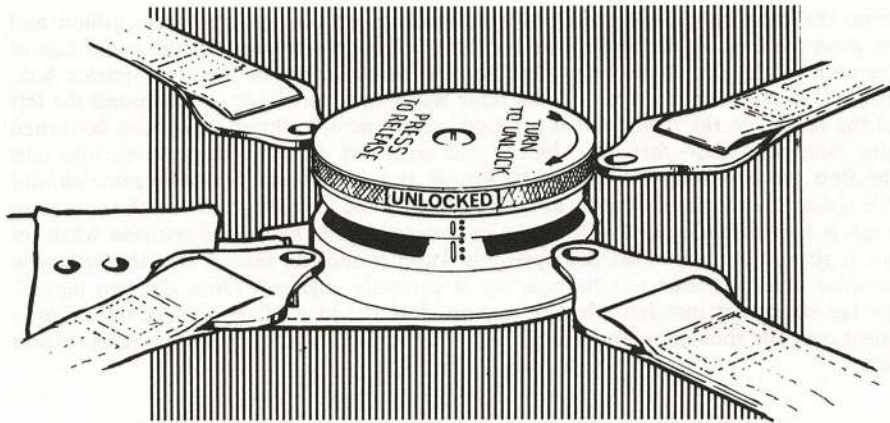

Fig 14 Parachute Harness Released
10. **Method of Release.** To release the parachute harness after a flight is a simple matter. Rotate the operating knob on the front of the quick-release box in the direction of the embossed arrow (clockwise) to the *unlocked position* and *press*. All the metal lugs of the harness drop out of the box and the parachute falls away from the wearer (Fig 14).